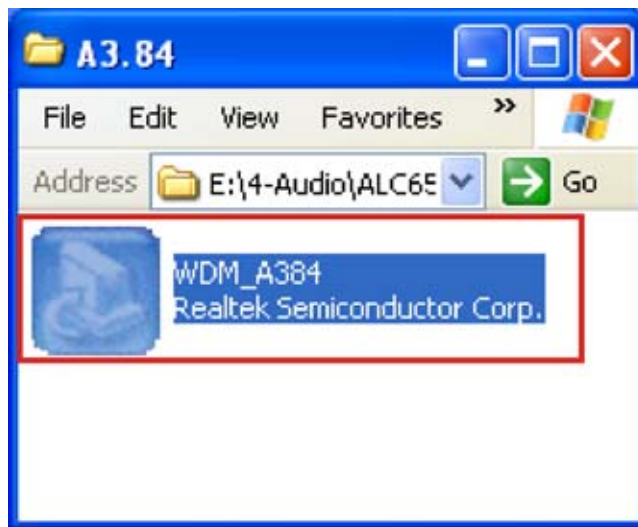

Figure 7-20: Audio Driver Options
Step 49: Browse to “E:\4-Audio\Windows\Windows 98Gold, 98se, Me, 2000, XP, 2003(32,64 bits)\A3.84” Double-click the installation file in **Figure 7-20**.